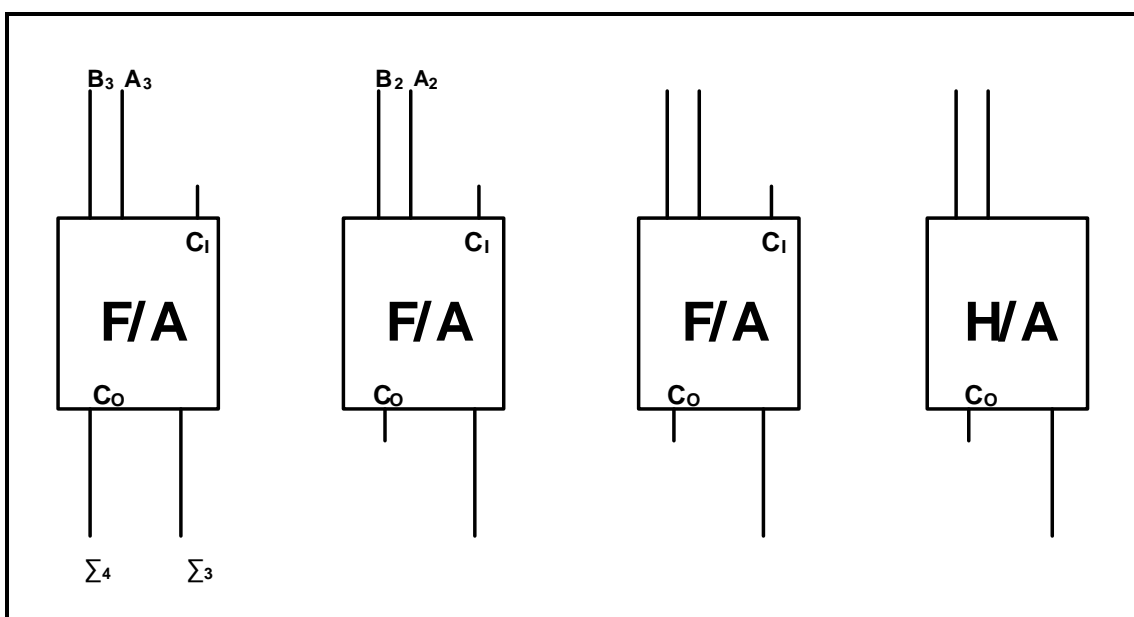

FIGURE 4.4: 4-BIT PARALLEL ADDER
- 4.4 FIGURE 4.4 below represents an incomplete block diagram of a 4-bit parallel adder. Complete and label the diagram of this adder on the ANSWER SHEET for QUESTION 4.4.